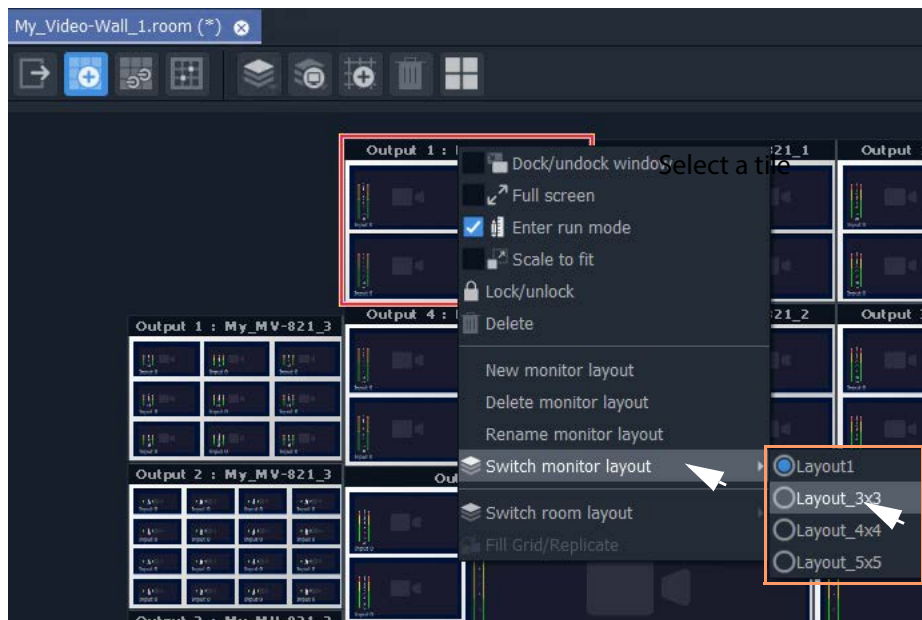

Fig. 15-50: Select a Monitor Layout
- 6 Select 'Switch Monitor Layout' and select a **Monitor Layout** from the list. (See Figure 15-50.)